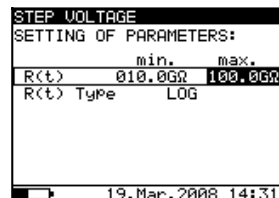

Fig. 25 Set-up menu of the Graph R(t)
- Press the SELECT key to Set-up the parameters of the graph R(t), see the **Fig. 25**. Press the ESC key to return to basic Set-up menu in the Step Voltage function.